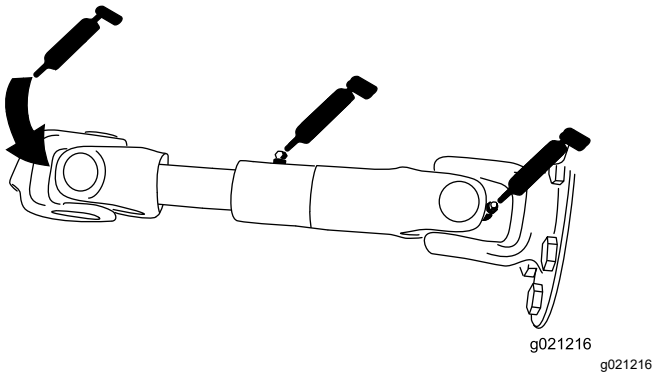

Figure 107
- Pump driveshaft (3) (Figure 107)